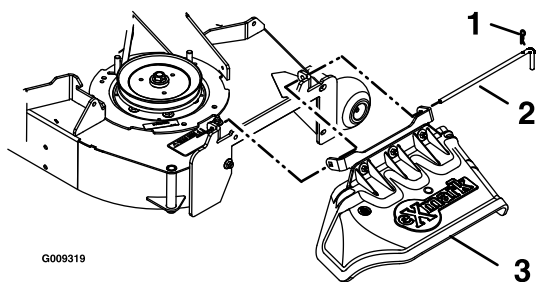

Figure 8
7. Install the discharge deflector using the chute pivot pin and hairpin (see Figure 8).